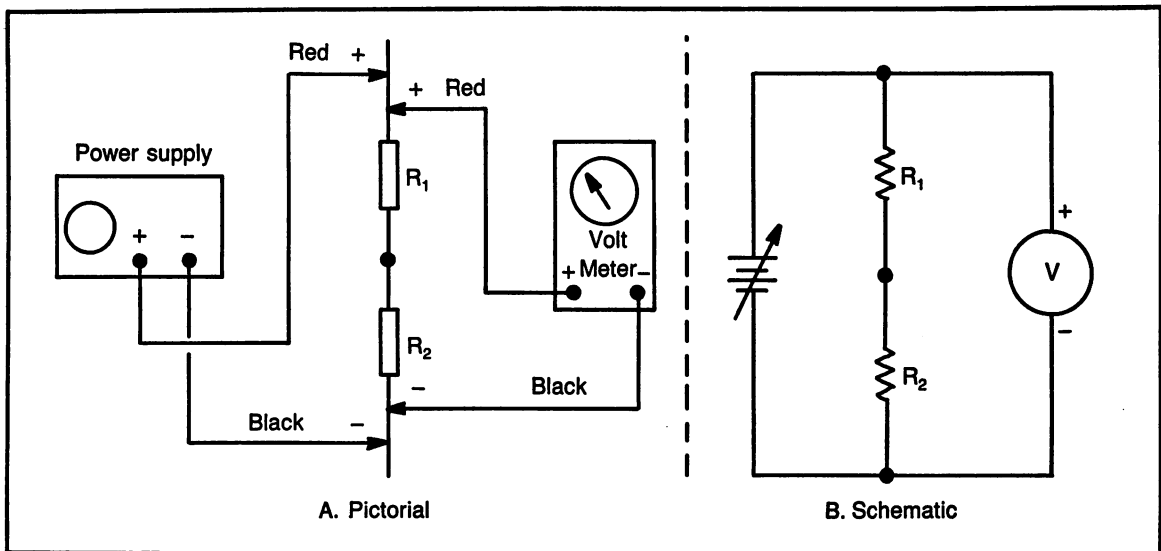

Fig. 9-14. Voltage measured across the entire circuit.
- (4) Figure 9-14 shows the two resistors connected to a power supply and a voltmeter. (A six volt battery can be used in place of the power supply)